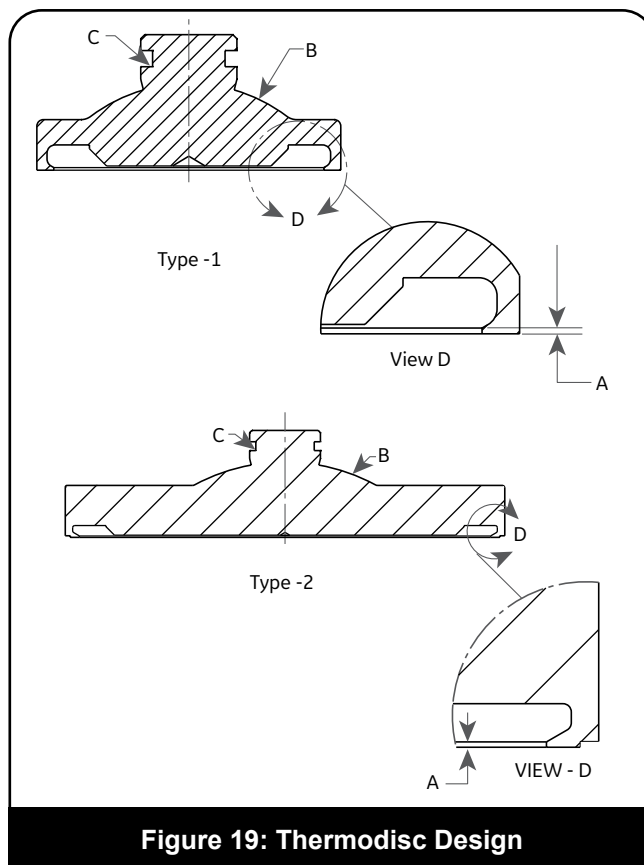

Figure 19: Thermodisc Design
8. Thermodisc Metal Seated Disc: This disc (Figure 19) cannot be machined. It can be lapped as long as the A min. dimension has been maintained. If lapping does not fix damaged area, part must be discarded.
- a. Seat defects and damage cannot be lapped out without reducing the “A” dimension in Figure 19 and listed in Table 6. If the dimension cannot be measured, replace the thermodisc.